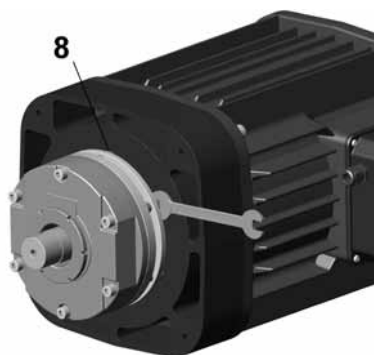

fig. 149
5. Remove the ring from the block by unblocking it, if necessary using a screwdriver in the notch of the ring (fig. 149).